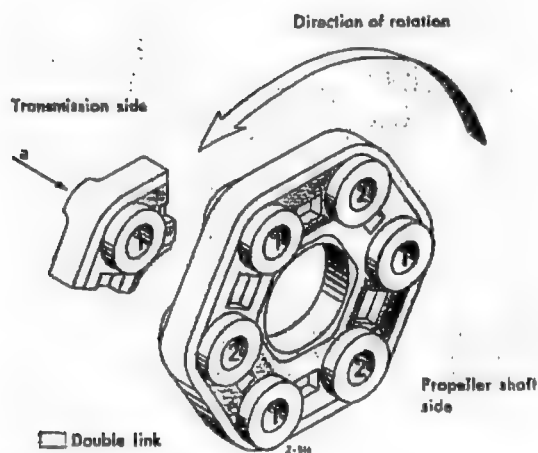

Fig. 41-1/10
- a) Grease fitting (8) for the center cross on the front propeller shaft (Fig. 41-1/9).